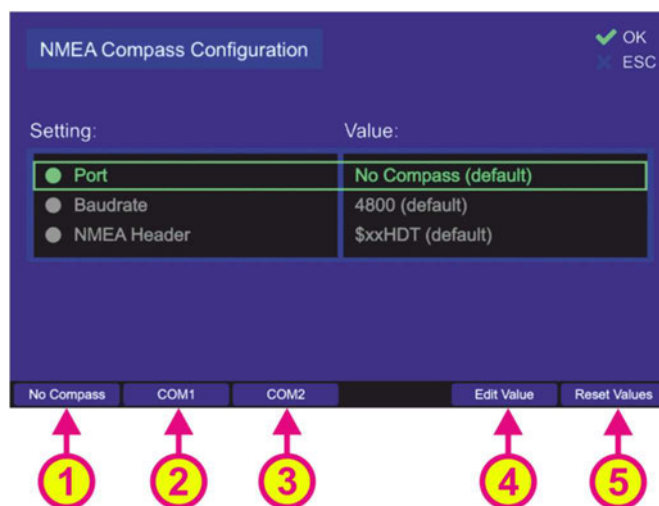
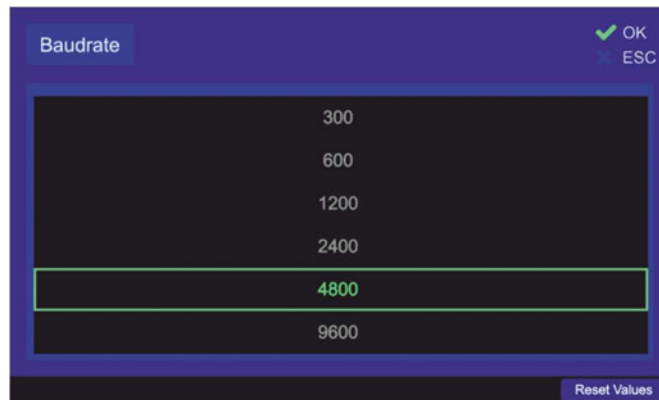
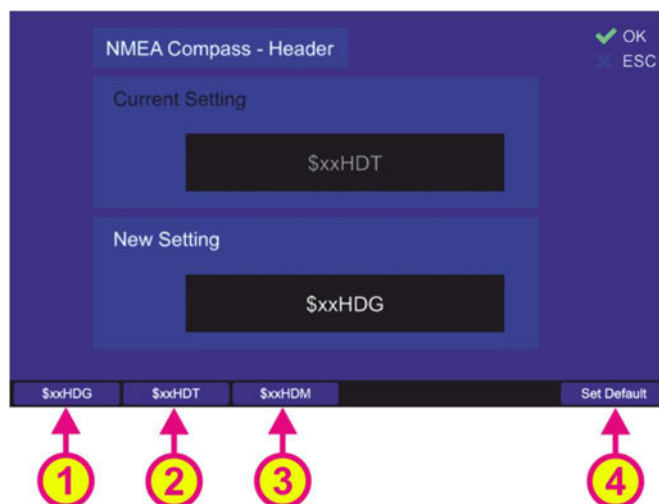

Figure 155. Compass configuration settings
Figure 157. Compass baud rate setting
Figure 158. Compass header setting
- Press the button “OK” or hotkey “Edit Value”, while the setting “NMEA Compass” is marked. Following sub-menu will appear (s. Figure 155).
Pressing the hotkey “Reset Values” (s. Figure 155, position 5) will set all menu items to default values. To go out of dialog confirming all changes, which have been made within the sub-dialogs for the single settings, press “OK”.
- The communication port can be changed by pressing one of the visible hotkeys, e.g.: “No Compass”, “COM1” or “COM2” (s. Figure 155, positions 1, 2 or 3), or the hotkey “Edit Value” while menu item “Port” is marked (s. Figure 155, position 4).
Using the hotkeys 1, 2 or 3 on the top level dialog “NMEA Compass Configuration” (s. Figure 155), the value of the “Port” setting can be changed without opening the corresponding dialog.
- To change the baud rate, press the hotkey “Edit Value” while the menu item “Baudrate” is marked (s. Figure 155). The corresponding sub-dialog will be opened (s. Figure 157).
- In order to change the NMEA header setting, press the hotkey “Edit Value” while the menu item “NMEA Header” is marked (s. Figure 155). The corresponding sub-dialog will be opened (s. Figure 158).
- Choose the new setting using one of the hotkeys (s. Figure 158), which will then appear in the “New Setting” field:
- Press the hotkey “Set Default” (s. Figure 158, position 4) to use the default value (“\$xxHDT”).